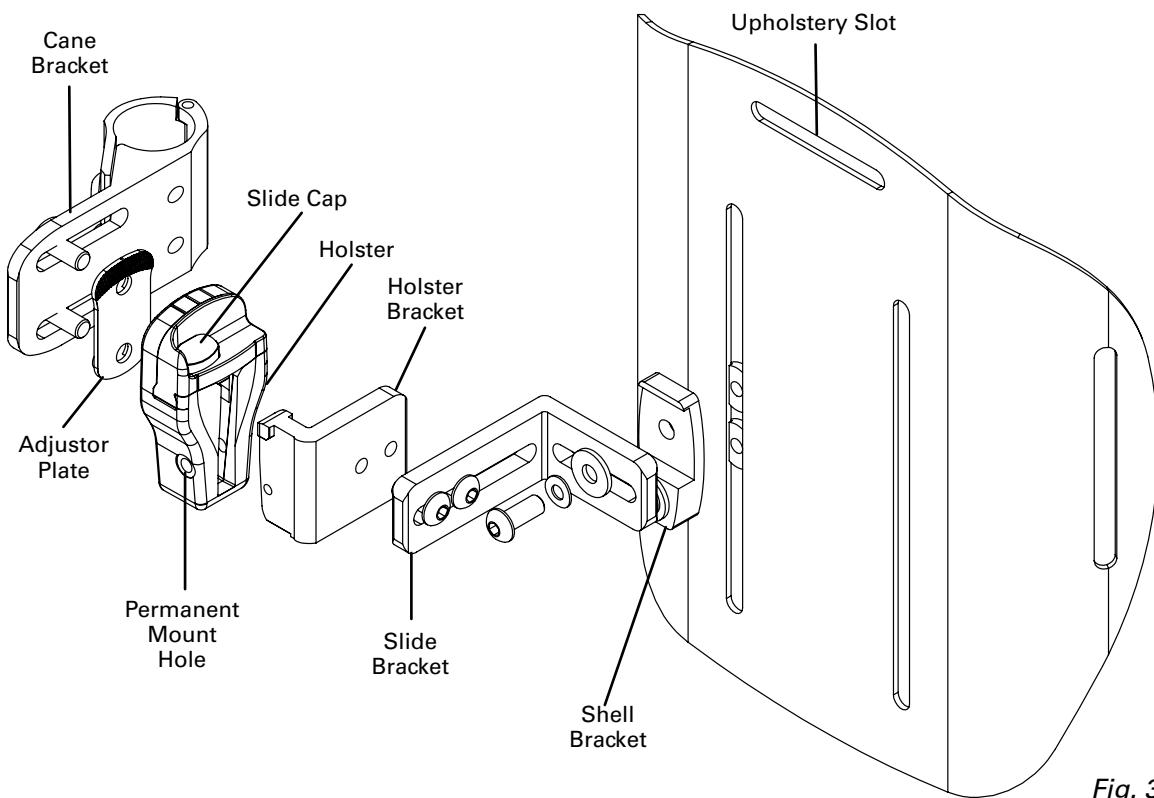

Fig. 3
2. Install the Permanent Mount Screw using the 3-32 in. hex key through the Permanent Mount Hole into the Slide Bracket. *Fig. 3*